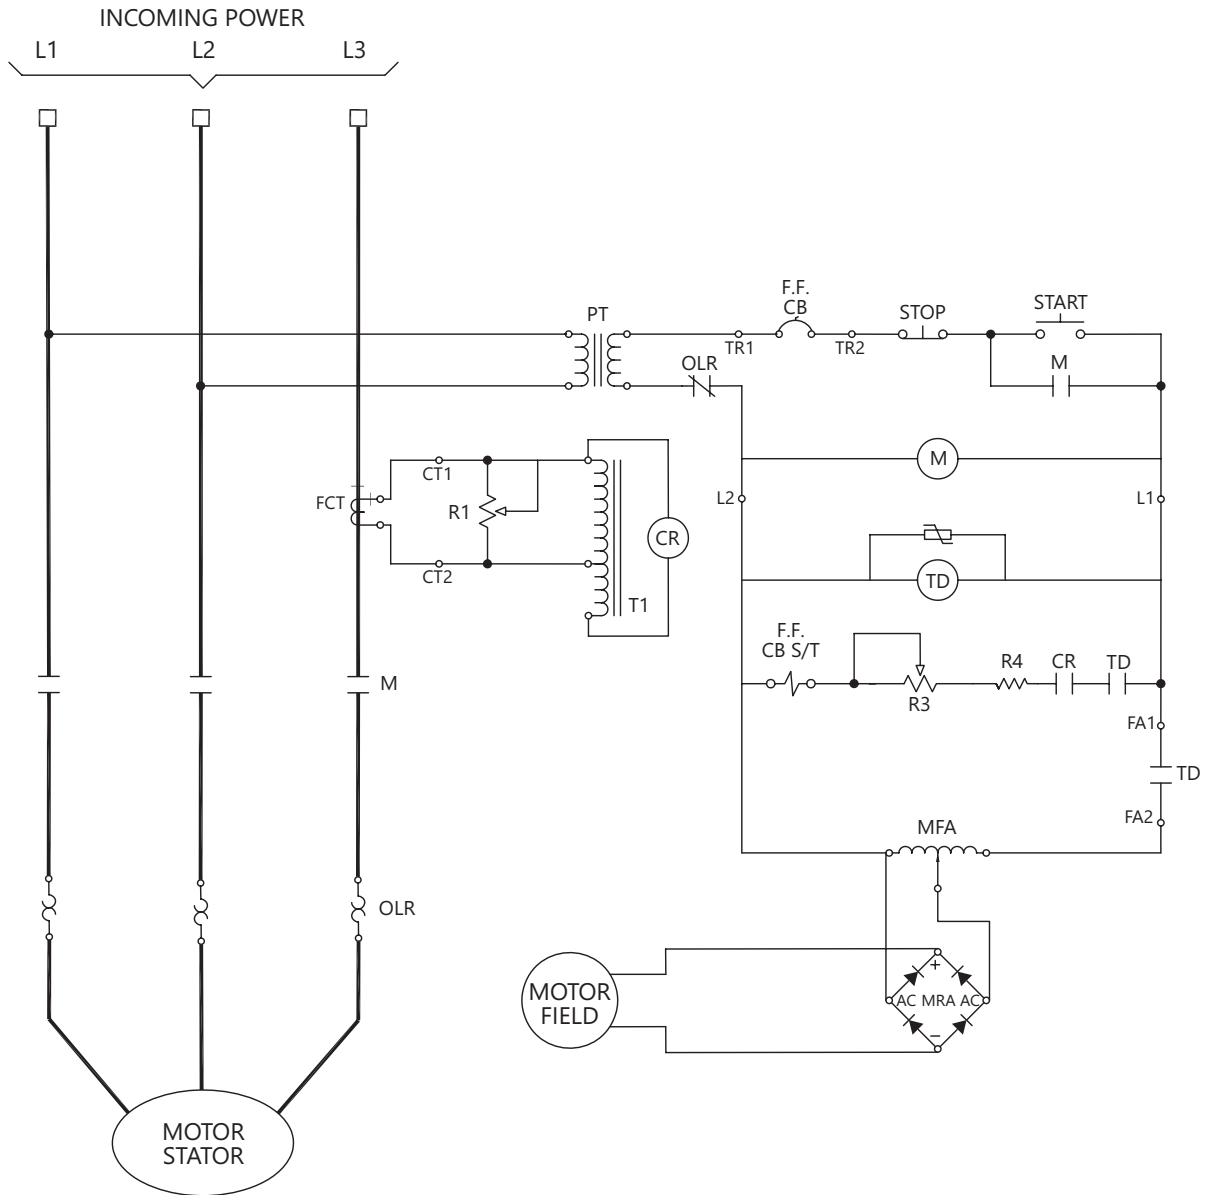

Figure 2: Connection Diagram
Refer to Figure 2 for a connection diagram.
Refer to Figures. 2 and 3 for a typical circuit. When the motor start button is pressed, the motor starter will be energized and power will be applied to terminals L1 and L2 of the field failure and out-of-step protection assembly, energizing timer TD. Due to the starting current of the motor, relay CR will energize, and its contact will close, but will not complete a circuit to the trip coil of the circuit breaker (CB) until the timing cycle of TD is completed and its contacts close. Normally, the motor starting current surge will have subsided, opening the contacts of CR before the contacts of TD close. When TD's contacts do close, power will be applied to the motor field circuit, and the motor will operate normally.